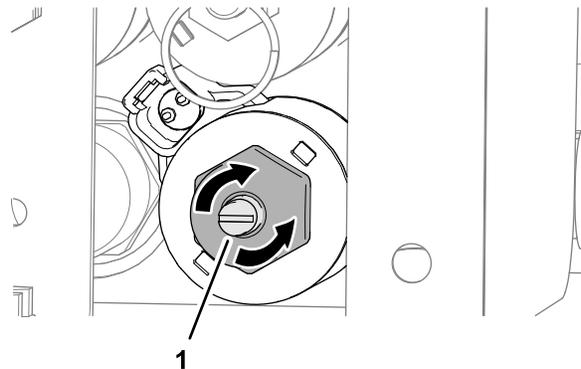

Figure 33
1. Rotate the hex-head screw for the valve override clockwise to increase the floor speed (Figure 33).